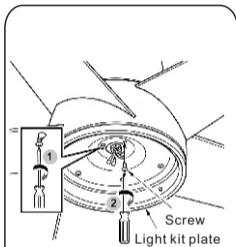

Fig.11
Step 3: Align the round hole of the light kit plate with light kit adapter,tighten all 3 screws.(Fig. 11)